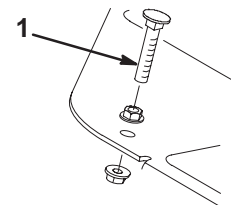

Figure 42
1. Press down on the traction pedal. If the pedal contacts the stop (Fig. 42) before tension is felt on the cable, an adjustment is required:
- A. Loosen flangehead locknuts securing the pedal stop to the floor plate (Fig. 42).